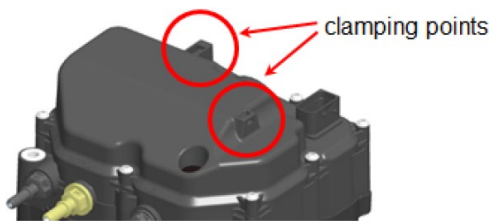

Figure 7-23 Clamping points for electrical cables
- We recommend using one of the default cable clamping points for the SM cover. Refer to Figure 7-23.